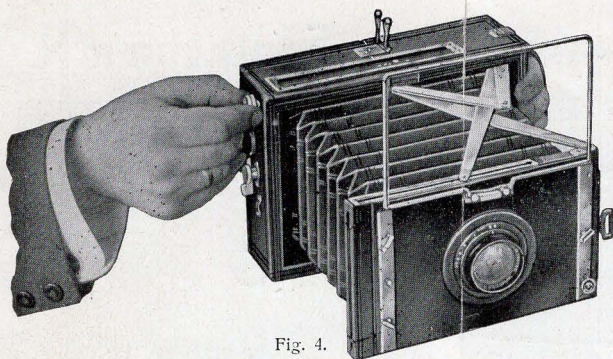

Fig. 4.
3. Alteration of extension and setting for near objects. (Fig. 4)